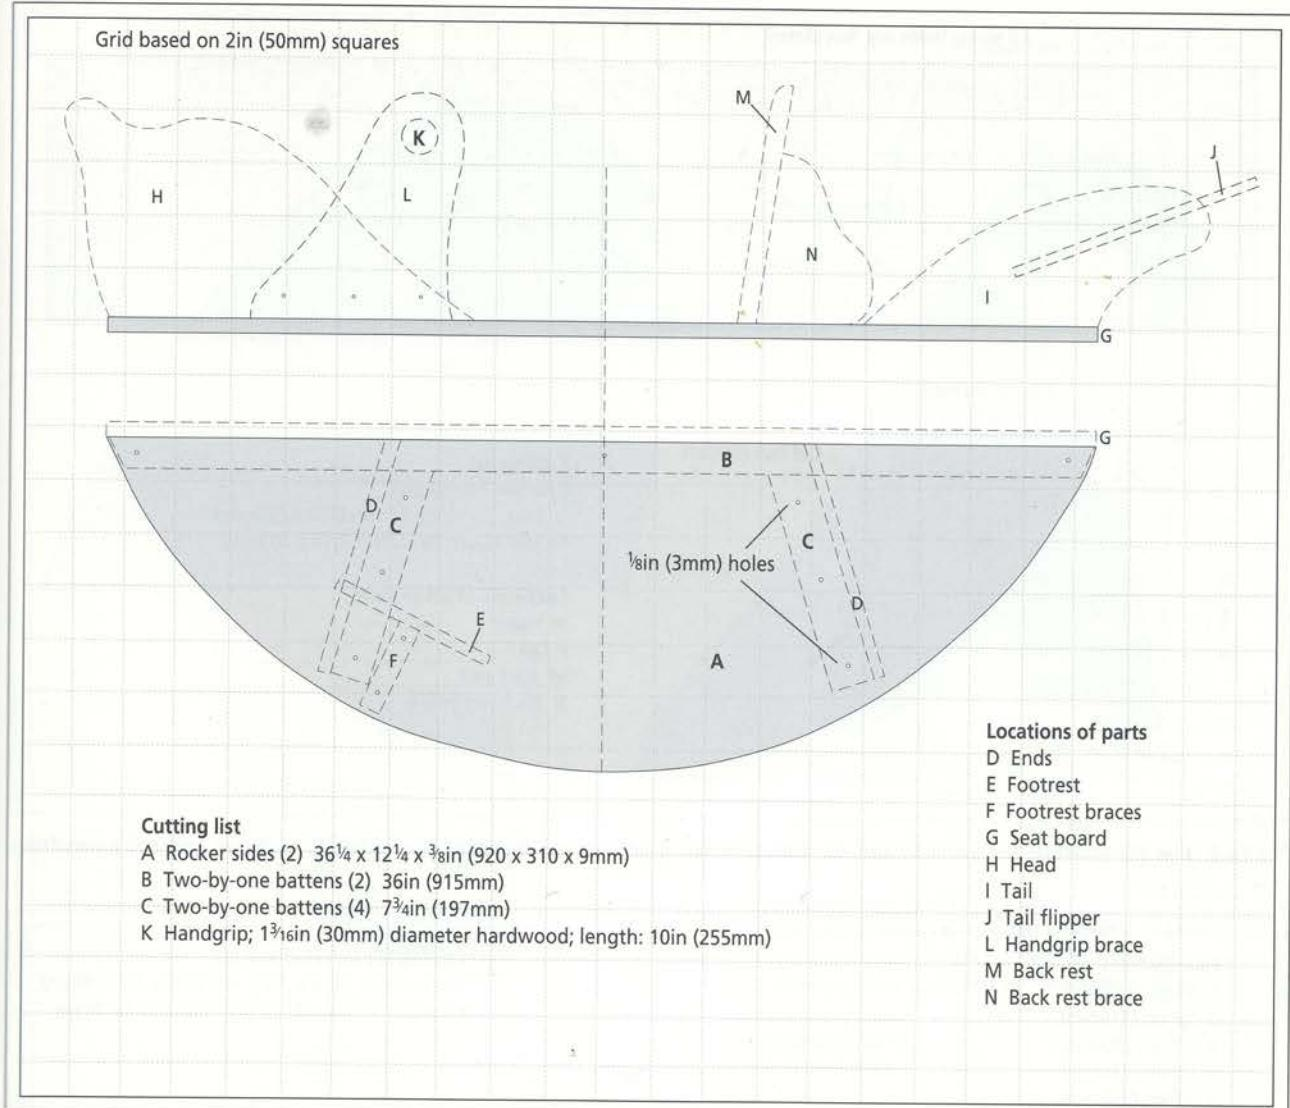
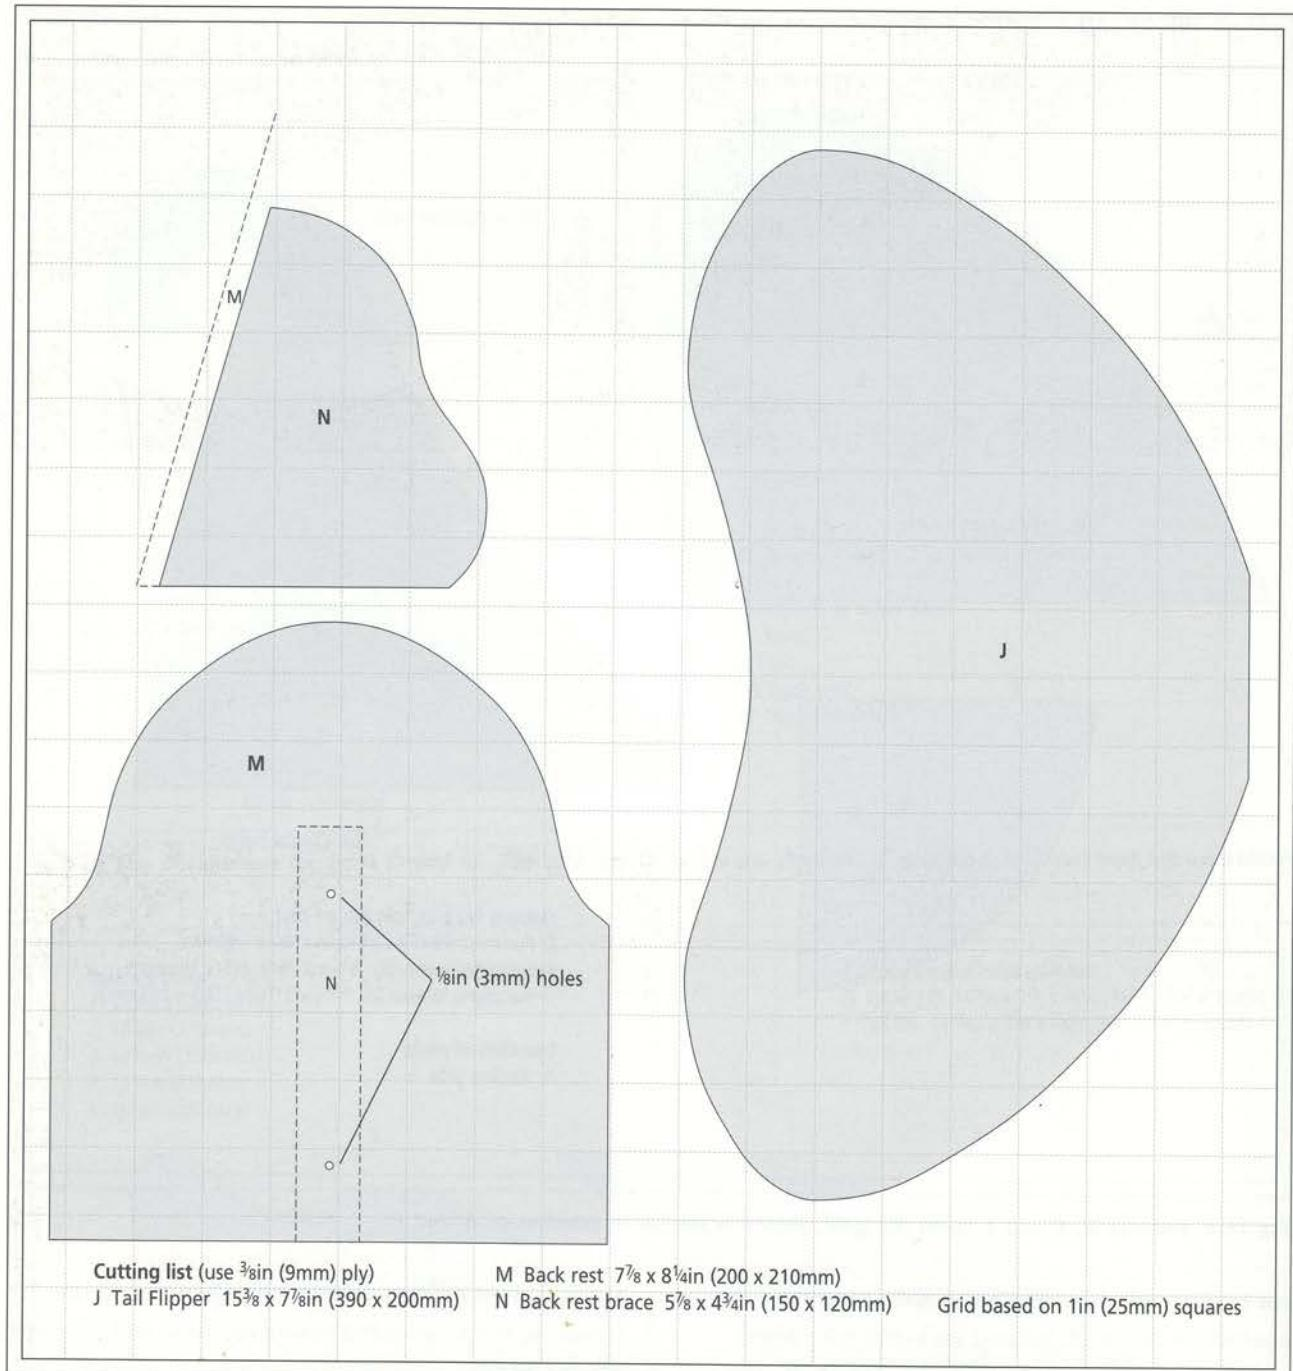

Fig 18.1 Part A may be enlarged from this grid onto ply. The dotted lines show the relation of all parts to A and G.
Fig 18.5 Enlarge J, M and N from the grid. Dotted lines on M and N show how these two parts fit together.
Enlarge all the parts shown in Figs 18.1–18.5 and transfer the shapes onto the correct thickness of ply. Mark the locations of all the screw holes as well.
Separate the two L parts and sand the edges to a small radius to remove the sharp corners. Glue and screw the two L parts to the head in the position shown in Fig 18.1. The handgrips (K) are formed exactly as described in the Rocking Panda project (*see* page 132). Glue K into the holes in L.
Saw to shape the tail fin (J) and shape the edges to a smooth rounded profile (*see* Fig 18.5). Then glue J into position in the slot in the tail section (*see* Fig 18.1). The photograph of the finished toy on page 134 shows the tail assembly attached to the seat board (G).
Saw to shape the back rest (M) and the two back rest braces (N). Fig 18.5 shows the shapes of these parts. Shape the edge of M to a smooth rounded profile. Glue and pin the two N parts together and, when dry, round over the sharp edges. Drill and countersink the two holes in M and glue and screw M to N. When the glue has dried, fill the screw holes with wood filler and sand smooth and level with the surface of the ply. Prime and paint the completed assembly.
Glue and screw the head, back rest and tail sections to the seat board (G) in the positions shown in Fig 18.1. Note that all these assemblies are screwed from the underside of the seat board.